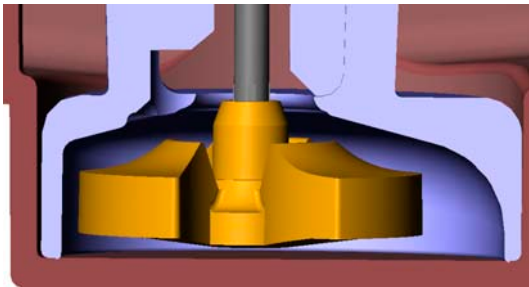

Fig. 4 Pump housing
- The pump rotor rotates in the pump chamber, which is filled with water. This is formed by the bottom of the float tank and the underneath of the pump housing (Fig. 4 ).